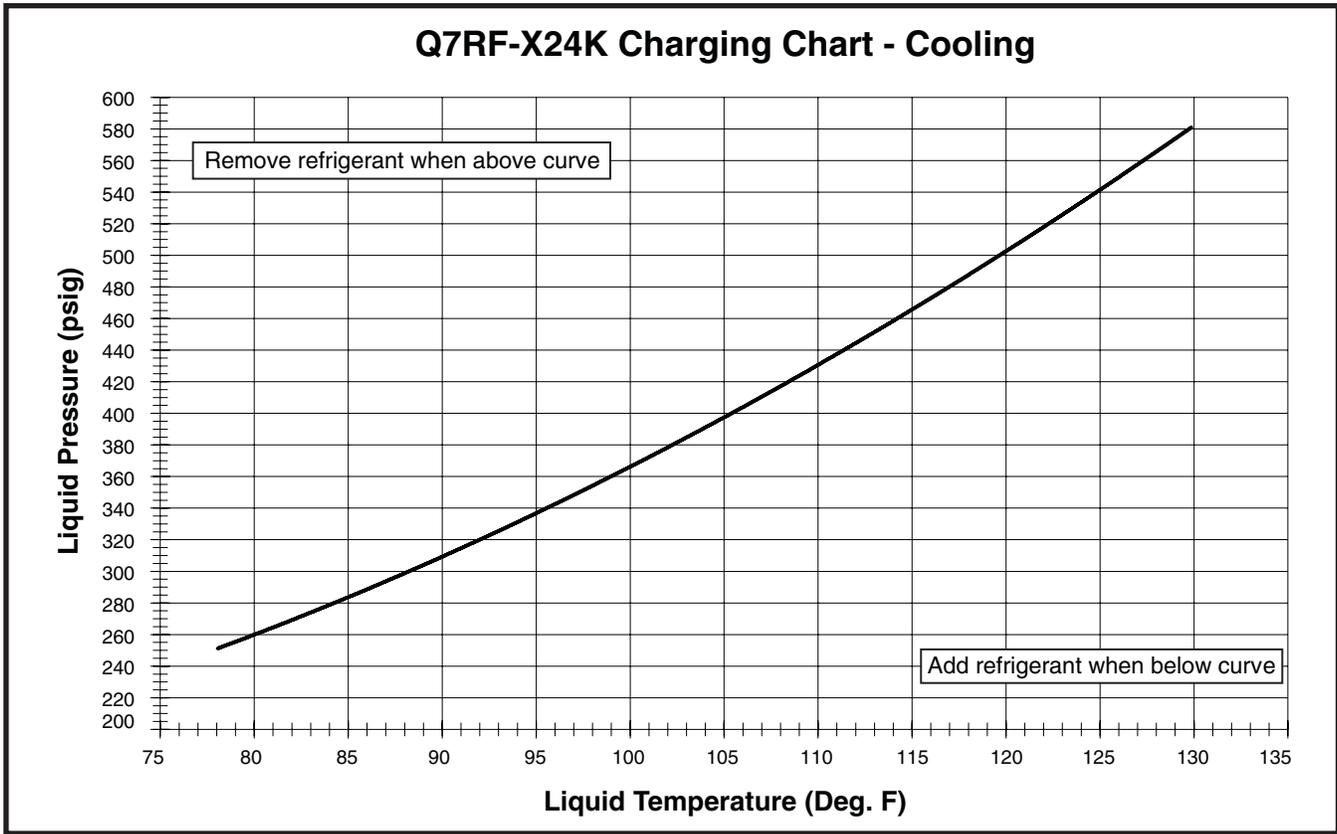
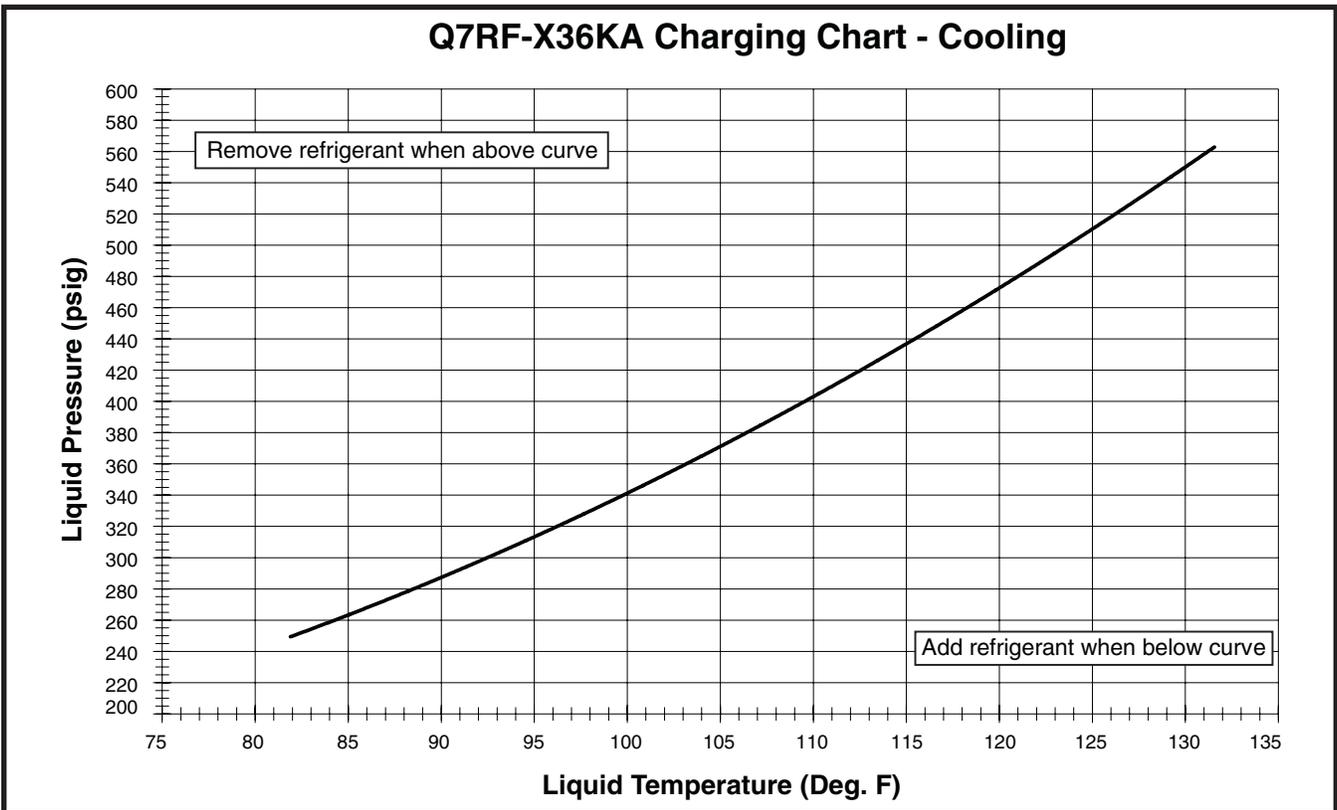
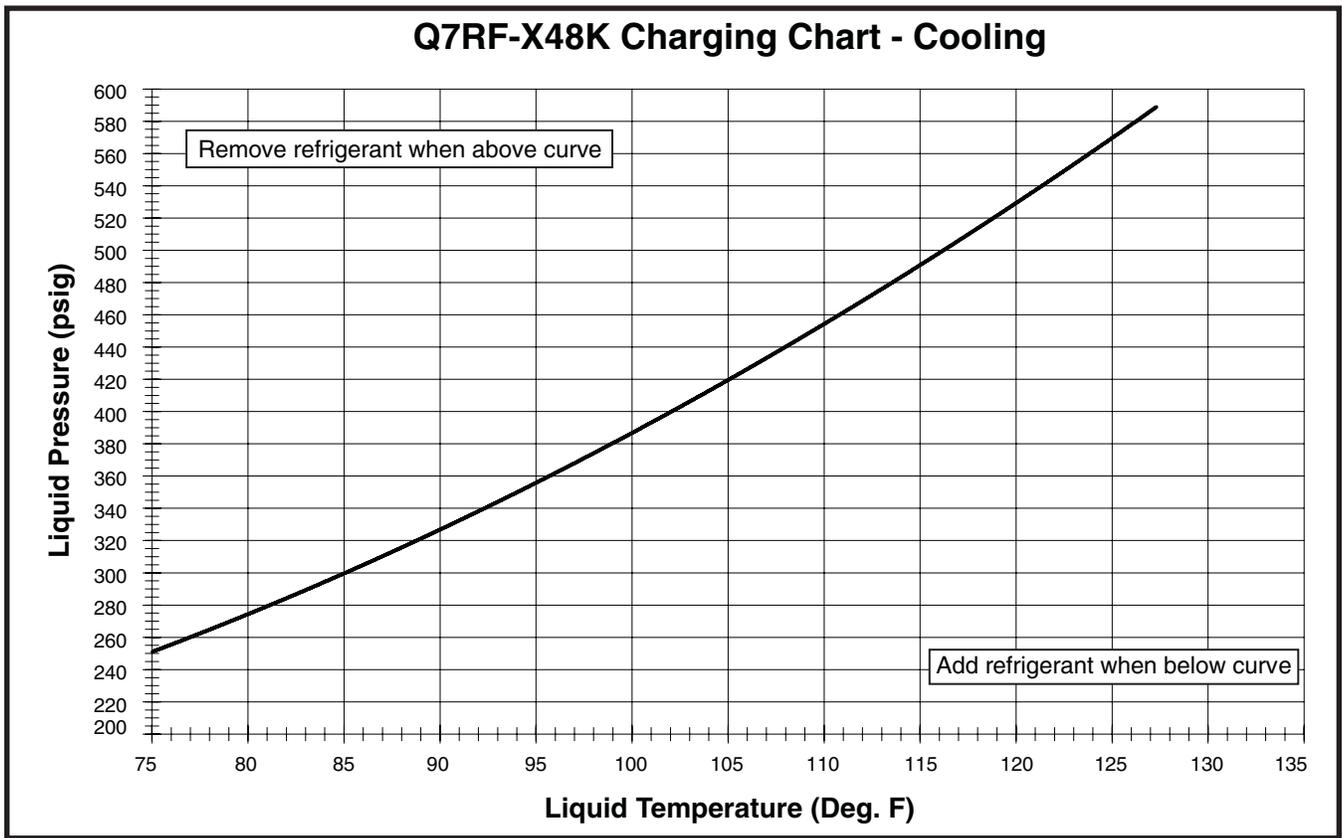

Figure 10. Charging Chart for 2 Ton Units
Figure 11. Charging Chart for 3 Ton Units
Figure 12. Charging Chart for 4 Ton Units
3. Use Figure 10 \(page 13\), Figure 11 \(page 13\), Figure 12 \(page 14\), & Figure 13 \(page 14\) to verify system conditions (during cooling mode) for proper charge amount.